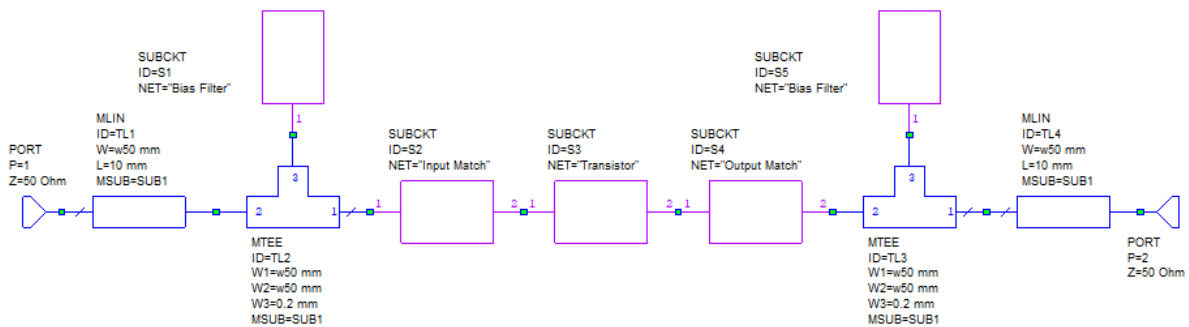

Fig. 11 Schematic of the whole LNA.
- The final amplifier can be compiled using SUBCIRCUITS in a new schematic called Amplifier, see Fig. 11.